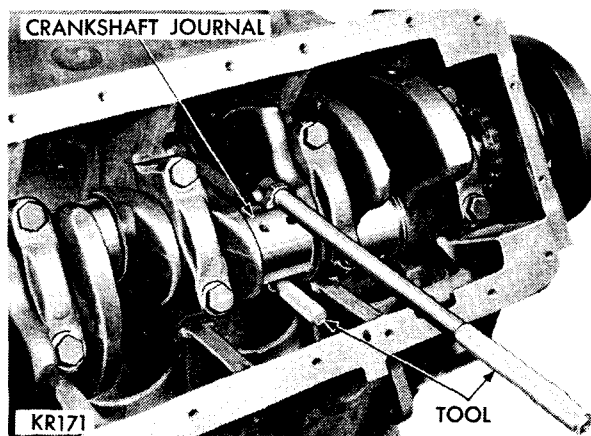

Fig. 38—Install Connecting Rod
(5) Attach puller part of tool on the other bolt, and guide the rod over crankshaft journal (Fig. 38).
(6) Tap piston down in cylinder bore, using handle of a hammer. At the same time, guide connecting rod into position on crankpin journal.
(7) The notch or groove on top of piston must be pointing toward front of engine and larger chamfer of connecting rod bore must be installed toward crank pin journal fillet.
(8) Install rod caps, tighten nuts to 45 foot-pounds.